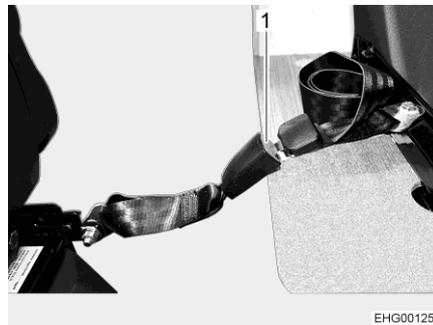
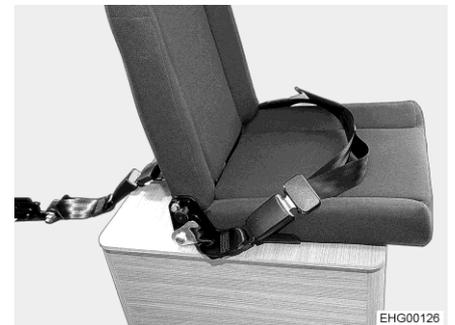

Fig. 33 Retaining belt
Fig. 34 Seat (completely fitted)
- Plug retaining belt (Fig. 33,1) into the seatbelt lock. The additional seat is now completely fitted (Fig. 34).